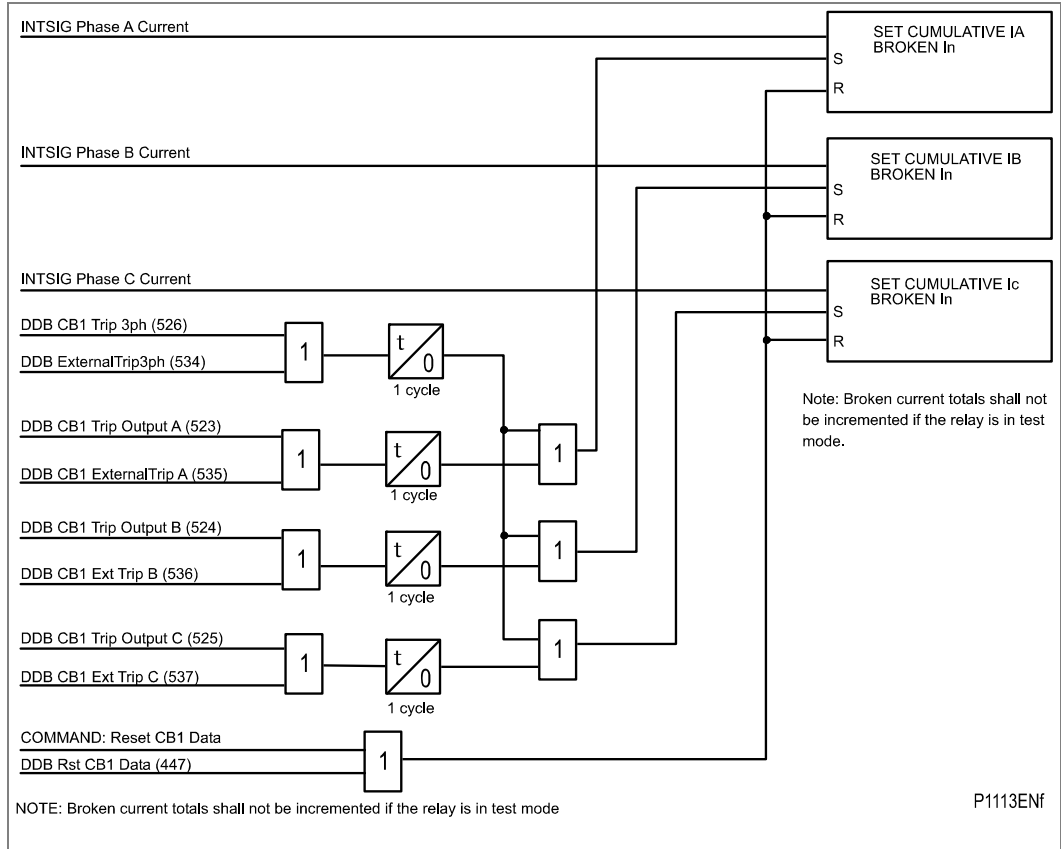

Figure 110 - CB1 condition monitoring - broken current
- Figure 110 - CB1 condition monitoring - operation time